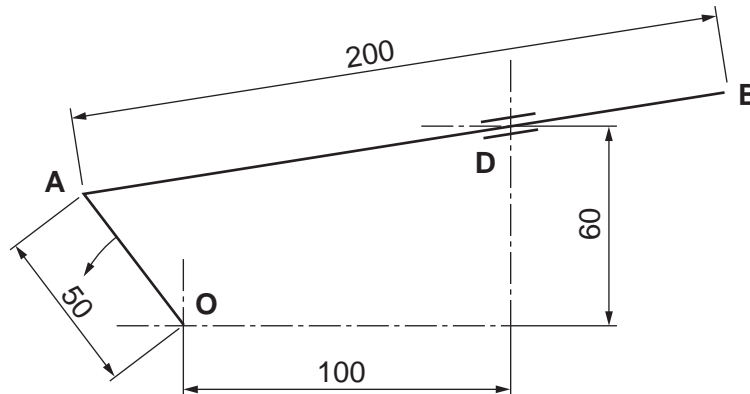

Fig. 5
- 9 Fig. 5 shows a linkage mechanism.
Use sketches and notes to describe how you would make a working model of the linkage shown in Fig. 5. [12]